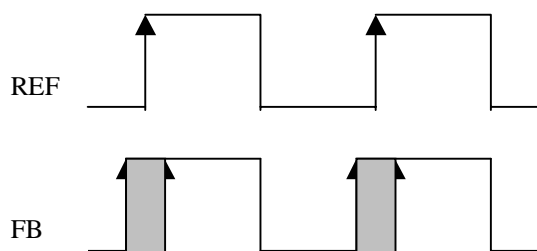

Figure 4. (b) Realistic Tracking Skew
Figure 4 shows a comparison of an ideal and realistic downstream PLL performance when tracking an SST reference signal. In Figure 4(a) the reference (REF) and feedback (FB) inputs to the phase detector are perfectly aligned and as the reference frequency changes the PLL loop responds instantly and the feedback signal perfectly “tracks” the reference in phase and frequency. In Figure 4(b) the real-world PLL has a non-zero response time and as the reference frequency changes the feedback signal will be slightly offset in phase as the loop responds. If we assume the reference frequency slightly increases then the feedback signal will slightly lag in phase until the loop responds. That is, the change of the reference input is detected by the phase detector, filtered, applied to the VCO, divided by the feedback divider and then applied to the feedback input of the PLL. The tracking skew is shown as both leading and lagging the reference input for two reasons: (1) because we are assuming the reference frequency is modulated around a stable center frequency, and (2) because at the scale of measurement we are concerned with here, pico-seconds, there is a statistical nature to at least a portion of the measurement. A typical measurement is made by triggering a very high-bandwidth digital oscilloscope on the reference signal and observing the feedback signal on a second channel. Using the infinite persistence mode of the oscilloscope, one is able to accumulate many traces of the feedback signal relative to the reference and measure the “accumulated tracking skew.” Accumulated tracking skew is actually a combination of phase skew due to the PLL loop response and all sources of phase noise or jitter that are affecting the device, including input jitter.